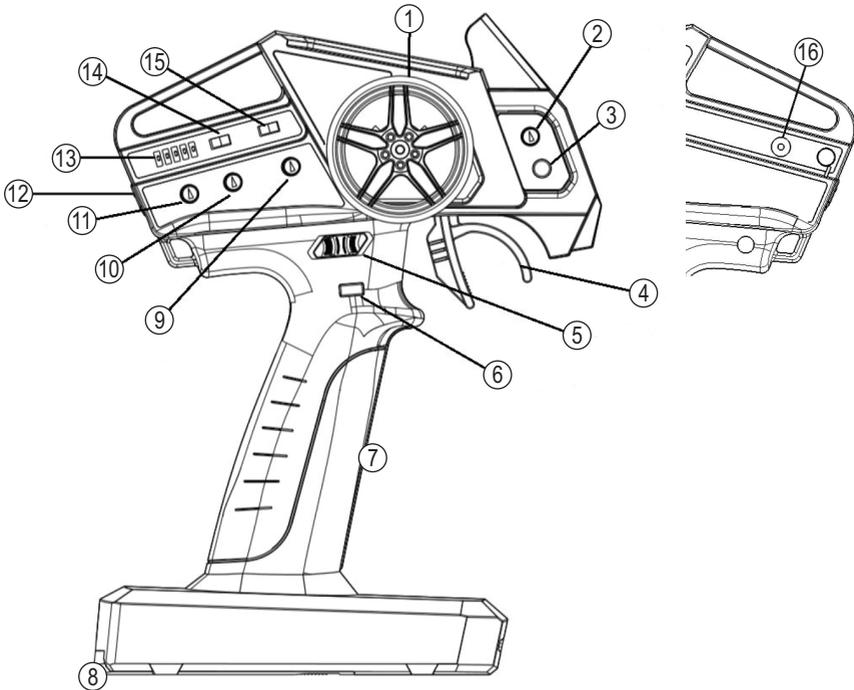

Figure 1
- Push the on/off switch (see fig. 1, no. 12) upwards.
- The LEDs (fig. 1, no. 13) indicate the battery status; the fewer of them are lit, the lower the battery status:
On the side of the transmitter, you will find a charging socket (fig. 1, no. 16) that can be used to charge the rechargeable batteries (for dimensions/polarity/charging current, see section "Technical data").
- "ST-TRIM" knob (fig. 1, no. 9): set the steering servo to the middle/neutral position (or straight-ahead vehicle travel), as described in section 11.6
- "GYRO LV/ST-D/R" knob (fig. 1, no. 11): only when the receiver gyro is **switched off**: steering servo maximum deflection limitation.
- "ST" reverse switch (fig. 1, no. 14): steering function reversal.
The throttle lever (fig. 1, no. 4) controls the speed controller connected to receiver channel 2. Pulling the throttle lever toward the handle causes the vehicle to drive forwards (speed depends on the lever position). Pushing the throttle lever away from the handle causes the vehicle to move backwards (if the reverse function on the speed controller is activated).
- "TH-TRIM" knob (fig. 1, no. 2): set the drive to the middle/neutral position (drive motor stopped).
- "TH-D/R" knob (fig. 1, no. 10): maximum speed limitation.
- "TH" reverse switch (fig. 1, no. 15): drive function reversal.
If the vehicle tends to pull to the left or right while driving, even though the steering wheel is in the middle position, set the steering trim accordingly with the “ST-TRIM” knob on the transmitter (see fig. 1, no. 9).
During the adjustment, one of the LEDs (fig. 1, no. 13) indicates the trim position, and the LED display changes back to the battery status if the knob is not moved for approx. 5 seconds.
The “GYRO LV / ST-D/R” knob (fig. 1, no. 11) has two different functions depending on whether the receiver gyro is enabled or disabled.
The “GYRO LV / ST-D/R” knob (fig. 1, no. 11) allows changing the gyro sensitivity.
The “GYRO LV / ST-D/R” knob (fig. 1, no. 11) allows limiting the maximum steering angle, thus improving the vehicle steering performance during fast driving, as it responds more sensitively.
During the adjustment, one of the LEDs (fig. 1, no. 13) indicates the setting, and the LED display changes back to the battery status if the knob is not moved for approx. 5 seconds.
Use the “ST” slide switch (fig. 1, no. 14) to reverse the steering servo movement direction (e.g. when holding the transmitter with your right hand and steering with your left hand).
If the vehicle does not stop when you release the throttle lever for forward/reverse travel (middle/neutral position), set the trim for the drive function accordingly on the transmitter with the “TH-TRIM” knob (see fig. 1, no. 2).
During the adjustment, one of the LEDs (fig. 1, no. 13) indicates the trim position, and the LED display changes back to the battery status if the knob is not moved for 5 seconds.
Use the “TH-D/R” knob (fig. 1, no. 10) to limit the driving speed. This is how you can familiarise yourself with the vehicle and its behaviour. This control is especially useful for beginners with little experience with that fast vehicles.
Normally, pulling the throttle lever towards the handle on the transmitter causes the vehicle to move forward. Otherwise, use the “TH” slide switch (fig. 1, no. 15) to reverse the movement direction of the drive.